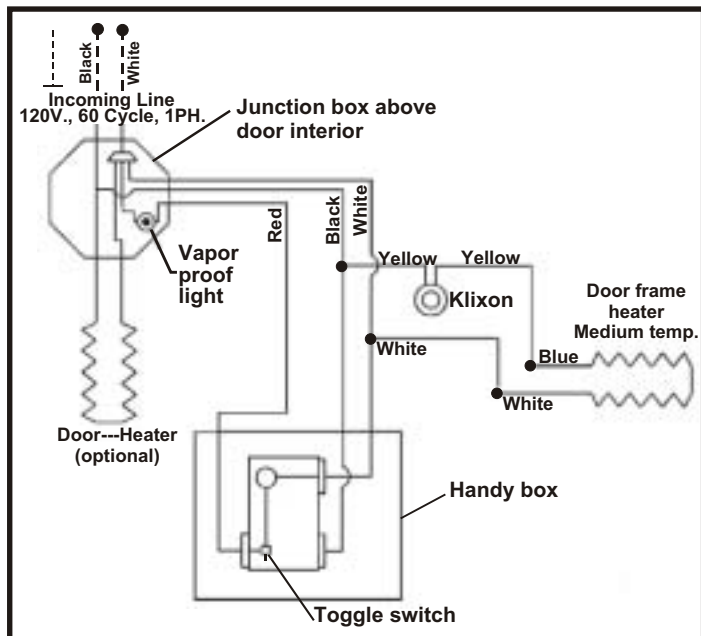

Fig. 13
- E. After the heater element is pulled around the perimeter of the door, make splices to the rubber cord. See Fig. 13 for wiring connection.